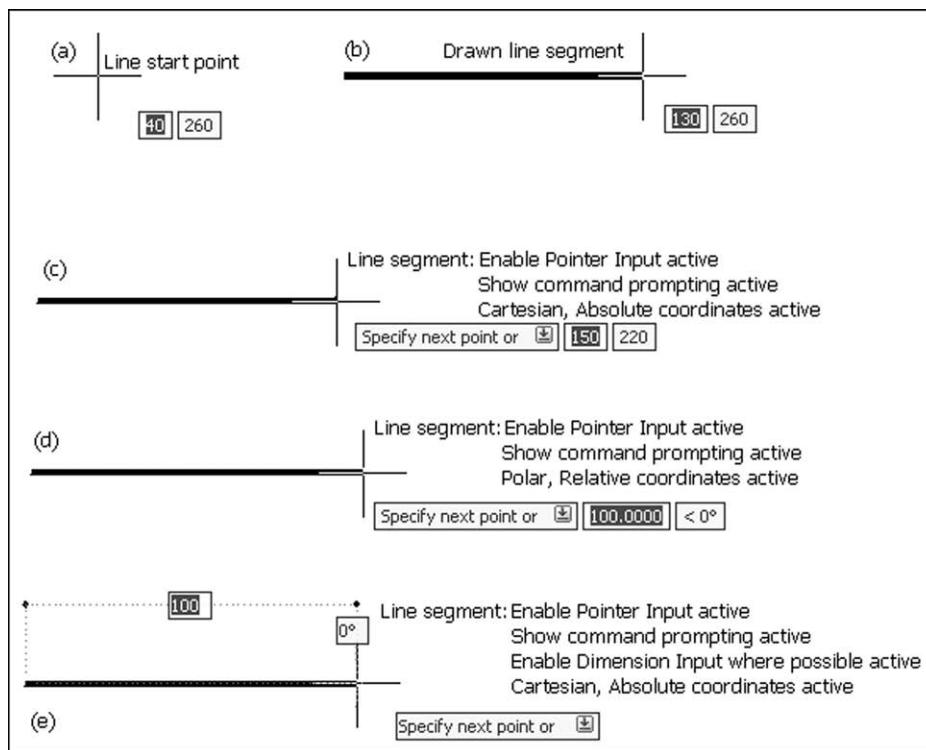

Figure 4.6 Using the Dynamic Input draughting aid.
- note the cursor display and select a suitable start point – Figure 4.6(a)
- drag out the line and pick a suitable end point – Figure 4.6(b)
- 6 The Dynamic Input draughting aid has several options which can be activated by the user as required. These aids are displayed in Figure 4.6 with drawn line segments:
- Figure 4.6 active drawing aids*